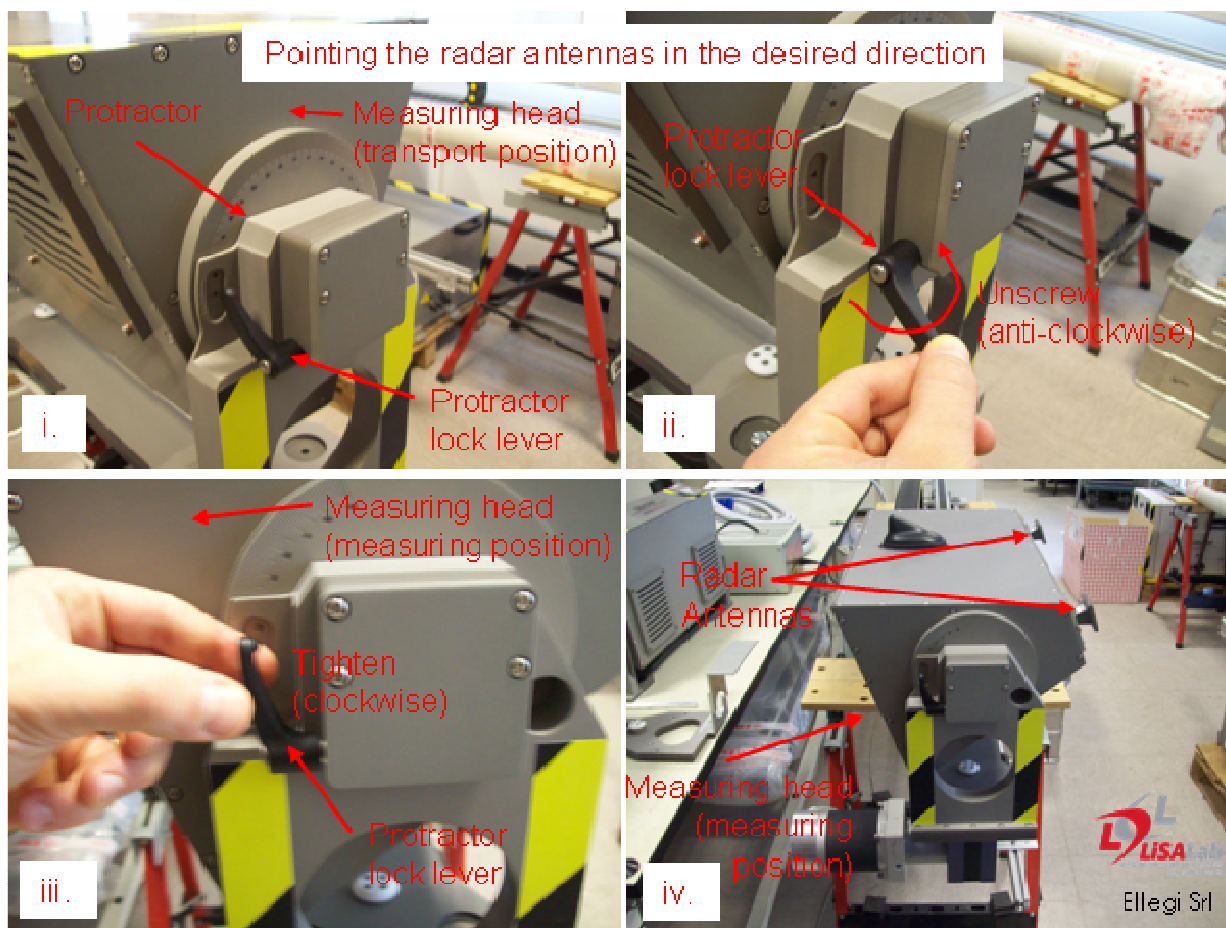

Figure 13: Step 8 of the installation procedure. Point the radar antennas towards the target.
8. Unscrew the protractor lock lever and rotate the measuring head pointing the radar antennas towards the target of the measures. Once the head is in the desired position secure it tightening again the protractor lock lever (Figure 13).